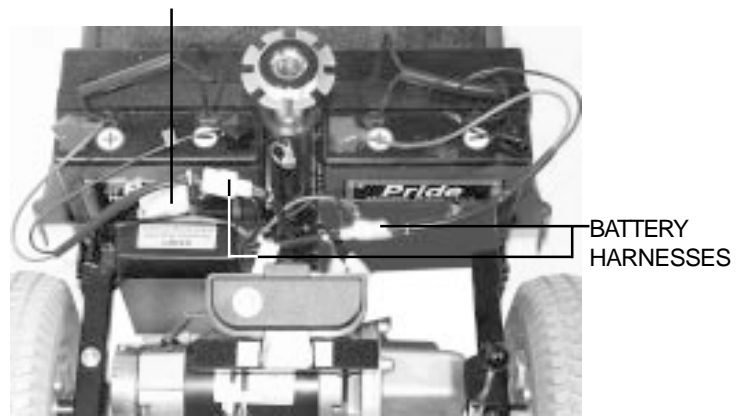

Figure 13. Disassemble Rear Connections
5. Unplug both battery harnesses. See figure 13.
7. Unplug the large, white, 9-pin front-to-rear harness that attaches the front control console module harness to the electronic controller module harness. See figure 13.